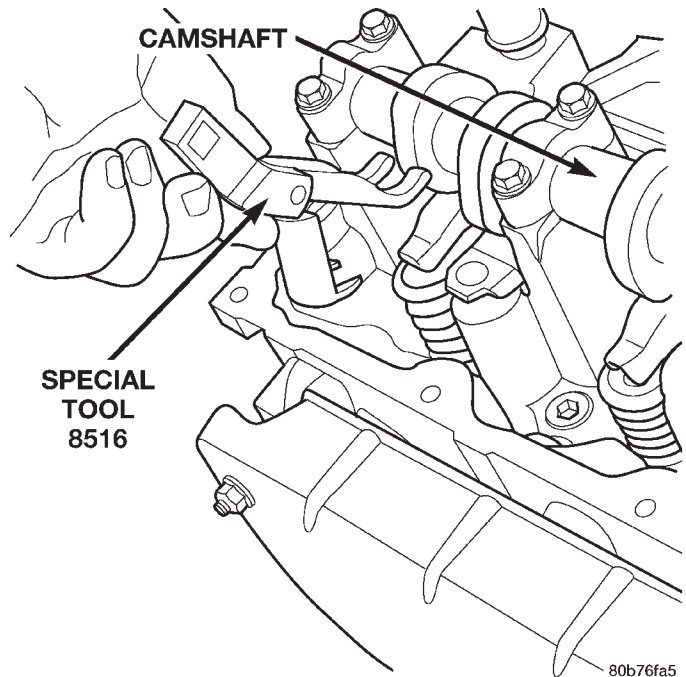

Fig. 41 Rocker Arm—Removal
- (1) Remove the cylinder head cover. Refer to Cylinder Head Cover in this section.
- (2) For rocker arm removal on cylinders 3 and 5 Rotate the crankshaft until cylinder #1 is at TDC exhaust stroke.
- (3) For rocker arm removal on cylinders 2 and 8 Rotate the crankshaft until cylinder #1 is at TDC compression stroke.
- (4) For rocker arm removal on cylinders 4 and 6 Rotate the crankshaft until cylinder #3 is at TDC compression stroke.
- (5) For rocker arm removal on cylinders 1 and 7 Rotate the crankshaft until cylinder #2 is at TDC compression stroke.
- (6) Using special tool 8516 press downward on the valve spring, remove rocker arm (Fig. 41).
(1) For rocker arm installation on cylinders 3 and 5 Rotate the crankshaft until cylinder #1 is at TDC exhaust stroke.
(2) For rocker arm installation on cylinders 2 and 8 Rotate the crankshaft until cylinder #1 is at TDC compression stroke.
(3) For rocker arm installation on cylinders 4 and 6 Rotate the crankshaft until cylinder #3 is at TDC compression stroke.
(4) For rocker arm installation on cylinders 1 and 7 Rotate the crankshaft until cylinder #2 is at TDC compression stroke.
(5) Using special tool 8516 press downward on the valve spring, install rocker arm (Fig. 41).
(6) Install the cylinder head cover.